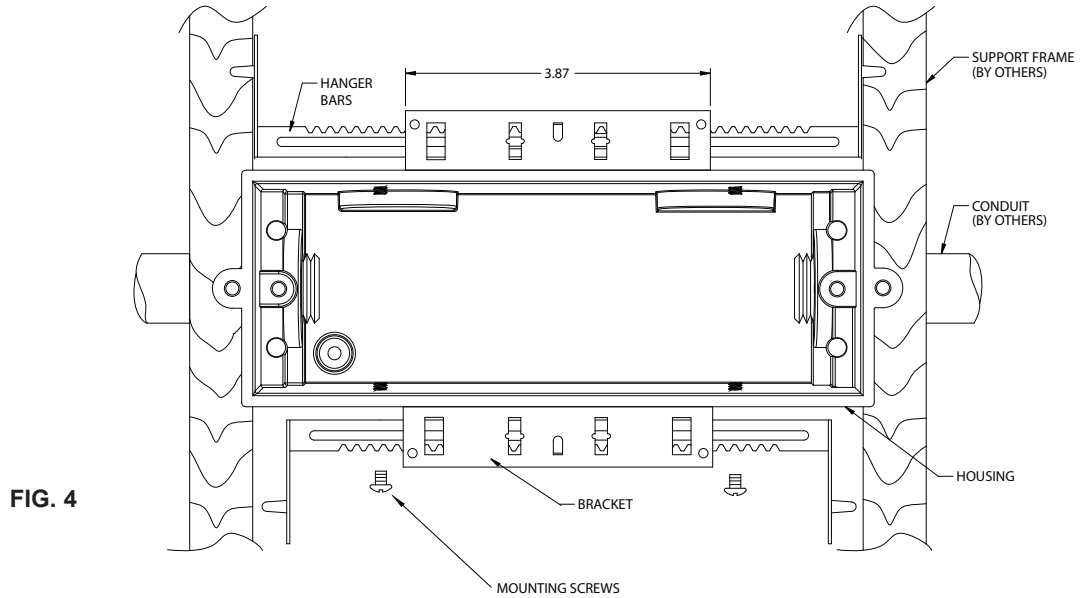

FIG. 4
- b. For drywall construction refer to Figure 4, 5, and 6.
(For wet or drywall installation see figure 4)
2. Remove screws from housing and use them to secure brackets to housing shown in FIG 4.